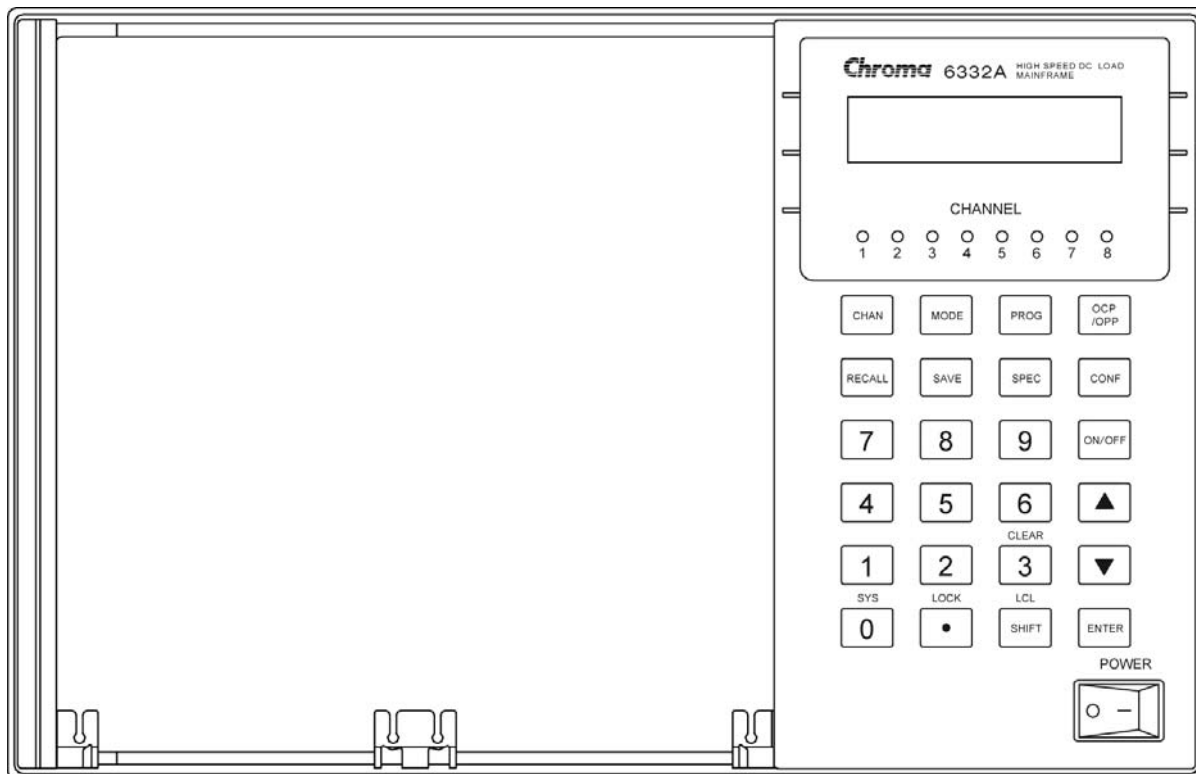

Figure 3-1 Front Panel of the Mainframe 6332A
The front panel of the mainframe includes a 16 × 2 character LCD display, 8 (4) channel indicators, and a keypad. All parameters of the load are set through mainframe. The LCD display also shows which function is being performed when you use the keypad. Three of the keys perform two functions. The alternative function is labeled in blue above the key. It is selected by pressing the blue **SHIFT** key and the function key simultaneously. Figure 3-1 shows the front panel of the mainframe 6332A.